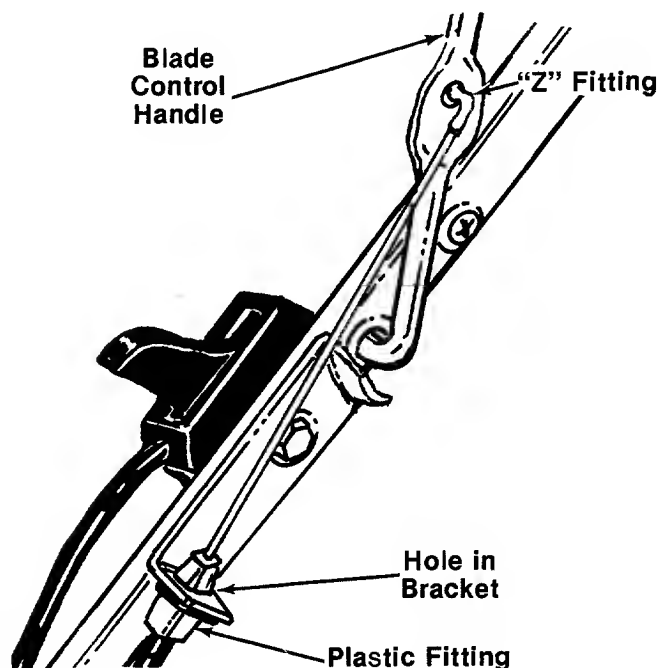

FIGURE 5.
6. Route the brake cable under the lower handle. Place the end of the brake cable into the hole in the bracket as shown in figure 5. Be careful not to bend or kink the cable. Snap the plastic fitting on the end of the cable into the hole in the bracket.
Hook the "Z" end of the brake cable into the hole in the blade control handle. See figure 5.